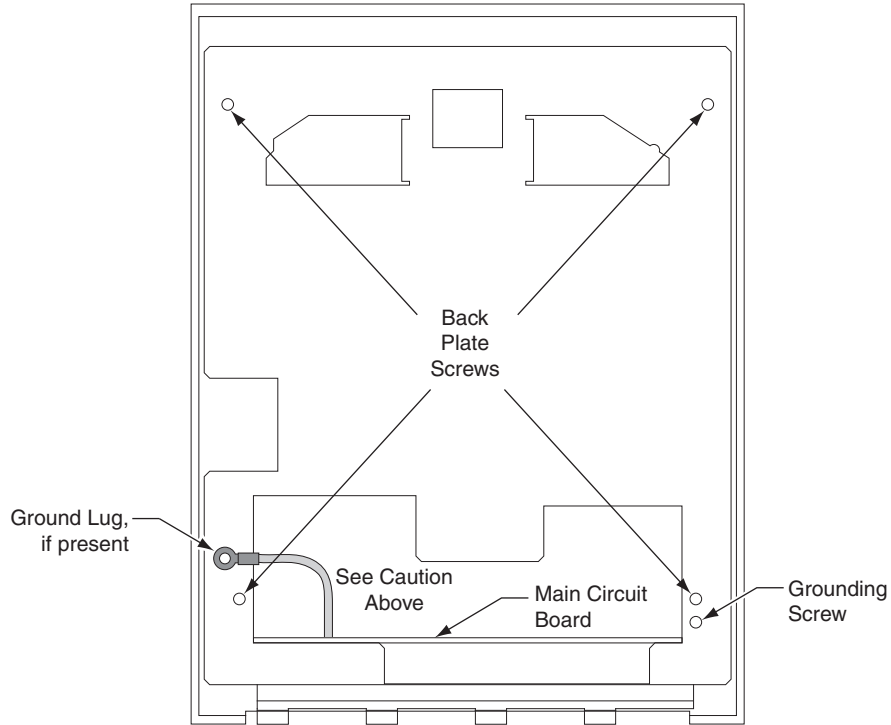

Figure 2
5. Set the reader on a firm surface such as a table. Remove the four screws that secure the back plate to the HandReader. Remove the grounding screw and/or ground lug (if present). See figure 2 below.